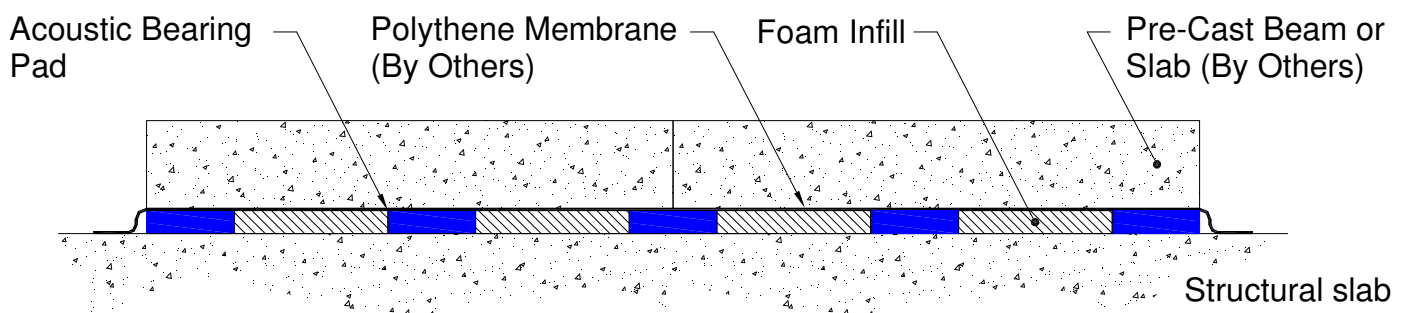

Figure 2
- 4) Pads can be laid directly under pre-cast beams or slabs as shown in Figure 2.